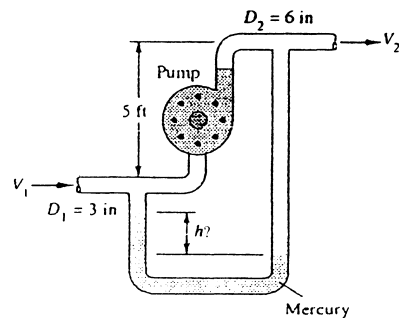

Fig. P3.146
3.146 Kerosene at 20°C flows through the pump in Fig. P3.146 at $2.3 \text{ ft}^3/\text{s}$. Head losses between 1 and 2 are 8 ft, and the pump delivers 8 hp to the flow. What should the mercury-manometer reading h ft be?